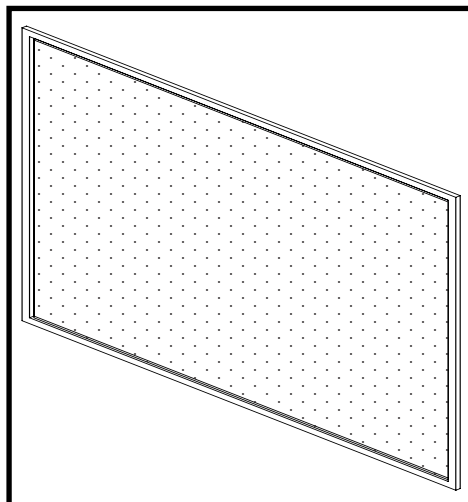

Figure 62: Safety barrier screen.
- Attach the magnetic safety barrier screen (Figure 62) to the outer-most door frame.